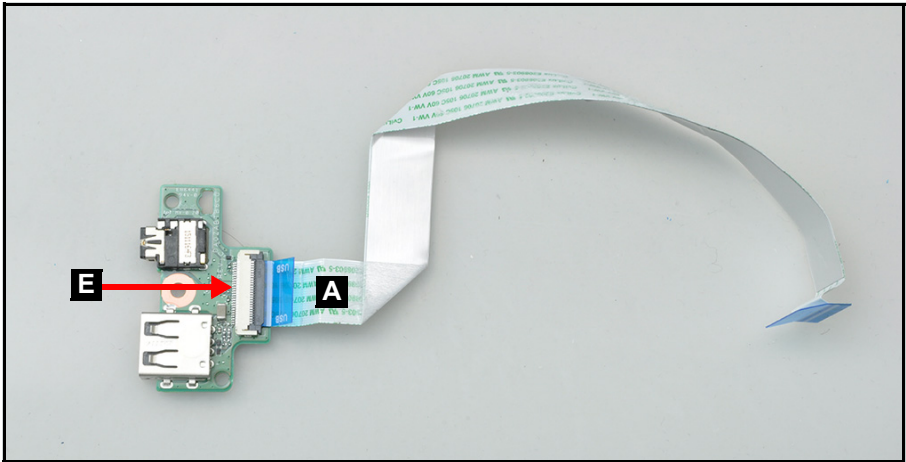

Figure 3-30. I/O Board Removal
6. Disconnect the I/O board FFC (A) from the the I/O board connector (E) (Figure 3-30).